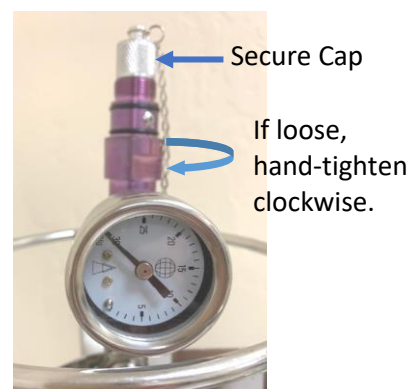

Figure 3. Pre-sample Vacuum check
- b. The vacuum on the gauge should read between **25 to 30 in Hg** and hold steady. If the vacuum reading drops toward zero, make sure the cap is hand-tightened, and the Entech FC body above the gauge is hand-tightened by rotating clockwise if needed (Fig 3.) **Do not use wrenches to seal the Entech flow controller body.**